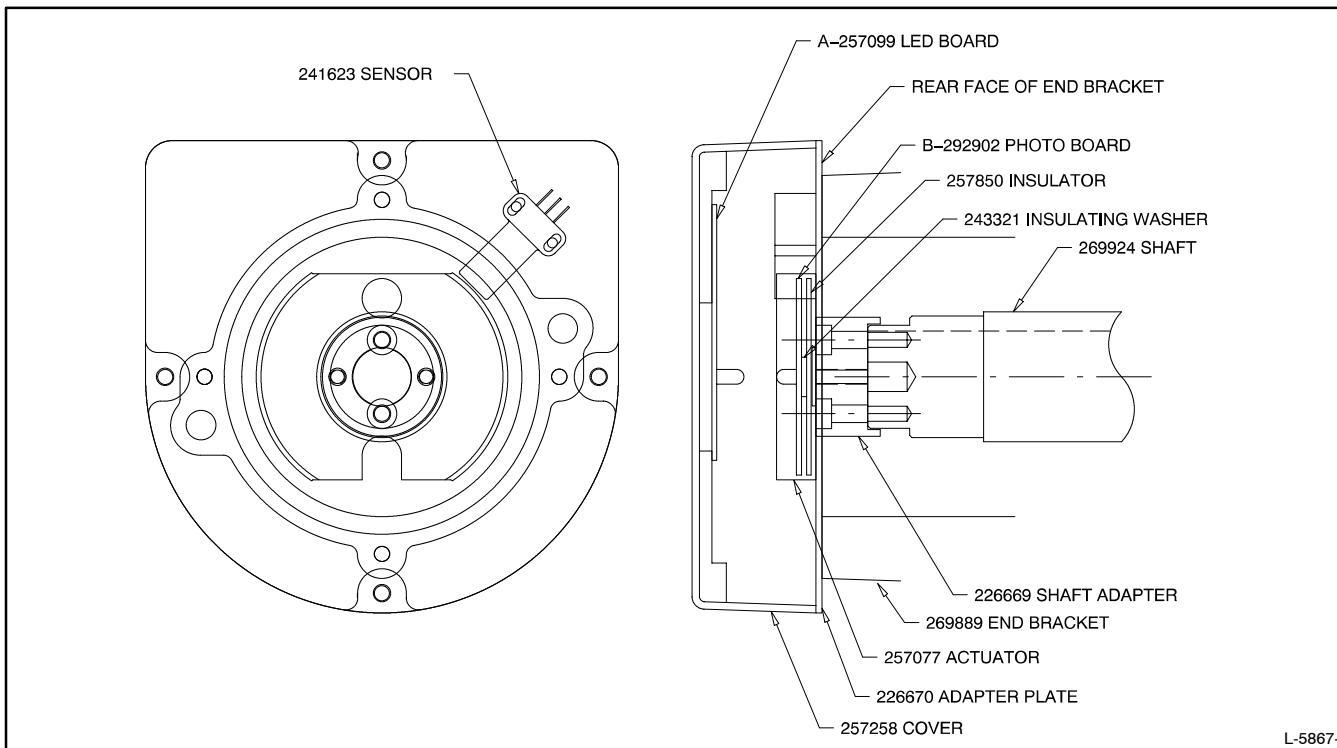

Figure 3 30 kW Adapter Components
21. Mount adapter shaft (226669) to rotor shaft using two socket head screws (X-55-38). See Figure 3.
23. Attach photo transistor board (GM34505), two insulating washers (243321), insulator board (257850), and speed sensor actuator (257077) to end of rotor shaft using two screws (X-117-7) and flat washers (X-22-9). Torque to 1.1 Nm (10 in. lb.) maximum. See Figure 3 for component sequence.